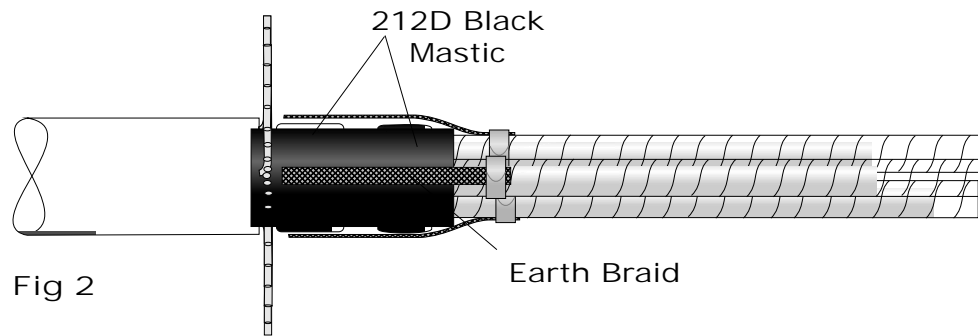

Fig 2
2. Lift the armour wires and apply two bands of the 212D black mastic tape as shown in Fig 2.